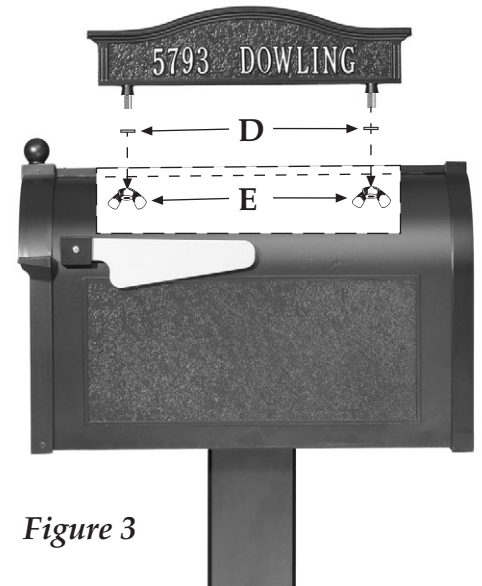

Figure 3
- 3) Place Cork Washers (D) over the studs on the Topper plaque (A). *(See Figure 3)*
- 4) Position the Topper plaque (A) so the studs are pushed through the holes in the top rail of mailbox. *(See Figure 3)*
- 5) Using the wing nuts provided (E), secure the plaque from the inside of the mailbox. *(See Figure 3)*